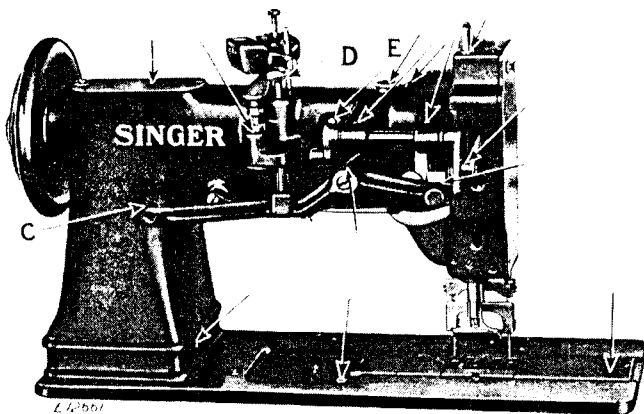

Fig. 3. Rear View of Machine
To increase the pressure of the presser feet on the material, turn the thumb screw (D, Fig. 3), at the back of the machine, downward. To decrease the pressure, turn this thumb screw upward.
If the distance between the vibrating presser bar and the lifting presser bar is more or less, insert a screwdriver in the hole at (C, Fig. 3) at the rear of the machine and loosen the clamp screw which holds the needle bar rock frame rock shaft. While this screw is loose, the needle bar frame can be moved forward or backward to the required distance. A piece of metal of the correct width may be used to determine the correct distance. When making this adjustment be sure to see that the feed regulating spindle head is set so that there is no feeding movement of the needle bar. When the adjustment has been made, securely tighten the clamp screw at C.
As a rule, the vibrating and lifting pressers should lift an equal height, but some grades of work may require that they lift an unequal height. To change the relative lift of the presser feet, loosen the screw (E, Fig. 3) at the back of the machine and move the presser bar upward or downward as required, then securely tighten the screw (E).